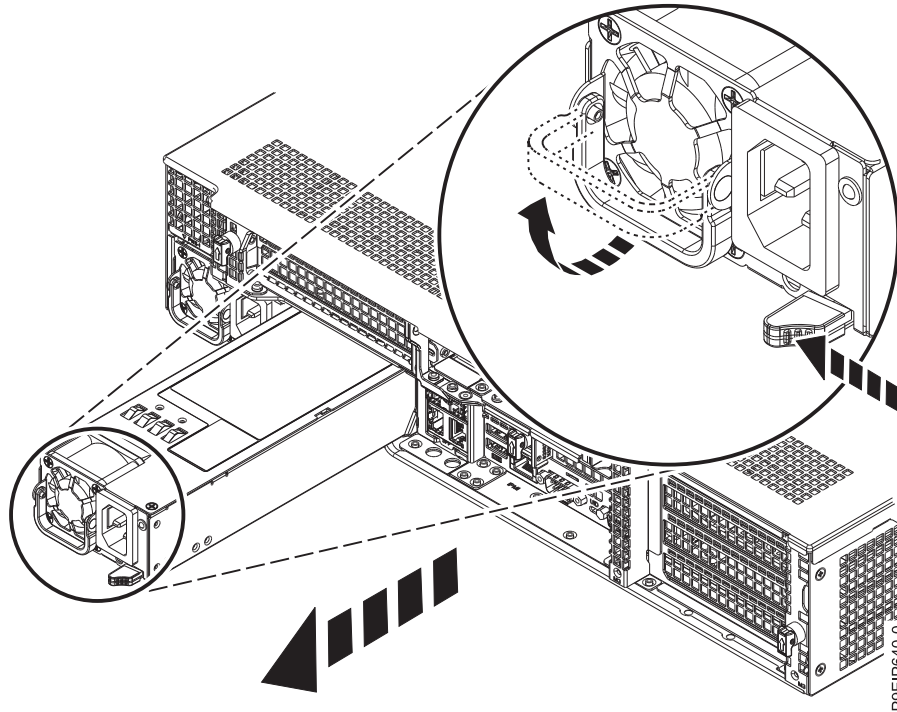

Figure 87. Removing a power supply from the system
- a. To unseat the power supply from its position in the system, push the locking-tab to the left as shown in Figure 87 on page 87.